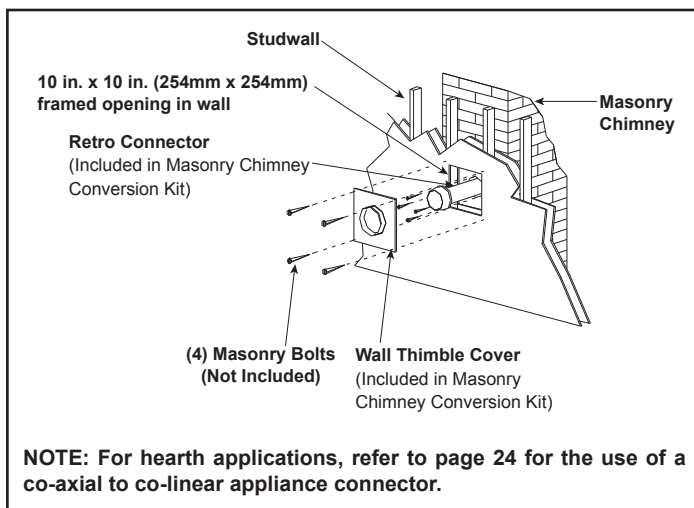
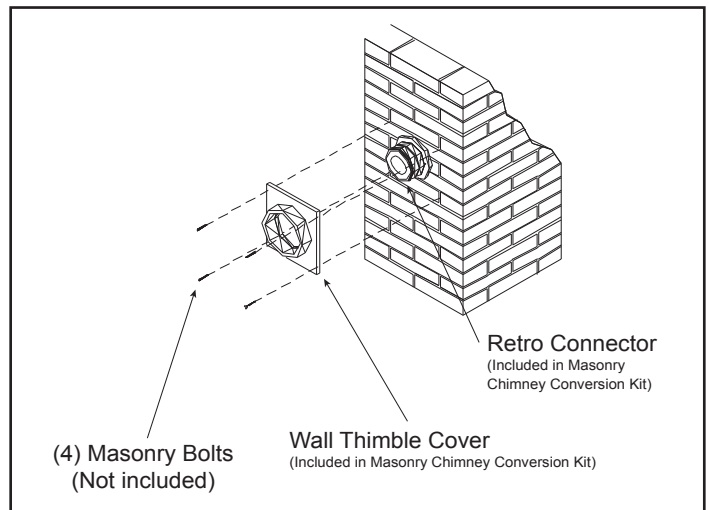

Figure 4.18
Figure 4.23
2. Once the center point of the penetration has been determined, cut a 6 in. (152mm) diameter hole in the masonry. If the hole is too large, the retro connector might not mount properly; if the hole is too small, the appliance might starve for intake air. If there is a frame wall in front of the masonry wall, cut and frame a 10 in. (254mm) square opening in the wall (centered around the 6 in. (152mm) masonry opening). If there is sheet rock only (no studs) in front of the masonry the 10 in. (254mm) opening is still needed, but does not need to be framed. If the hole is framed a wall thimble is required. This allows the retro connector to mount directly on the masonry and provide the correct clearances to combustibles. See Figure 4.18.
10. Slide wall thimble cover over retro connector and secure with masonry bolts. See Figure 4.23. If you have a framed wall in front of the masonry, use wood screws to mount wall thimble cover to framed wall, over retro connector and 10 in. (254mm) square framed opening. See Figure 4.18. If needed, add a section of direct vent pipe to the retro connector in order to extend through the opening in the wall thimble cover.